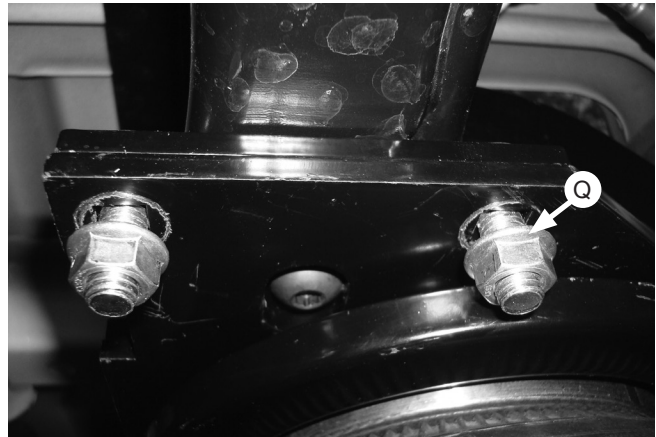

Fig. 18
- Before proceeding, ensure the 90 degree fittings each point inboard toward the center of the vehicle. While raising the axle or lowering the body of the vehicle, align the previously installed upper frame bracket carriage bolts with the air spring bracket holes so the carriage bolts protrude through the air spring bracket. Cap the carriage bolts with the 3/8" serrated flange lock nuts (Q) (Fig. 18). Snug the bolts down first then torque to 31 lb.-ft. (42Nm). Finish raising the axle or lowering the body and remove safety stands.